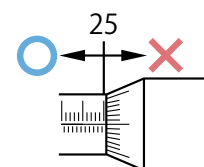

Fig. 2
1. Do not retract the spindle too far past the upper limit of the measuring range, as this can damage some types of digital micrometer. (**Fig. 2**)